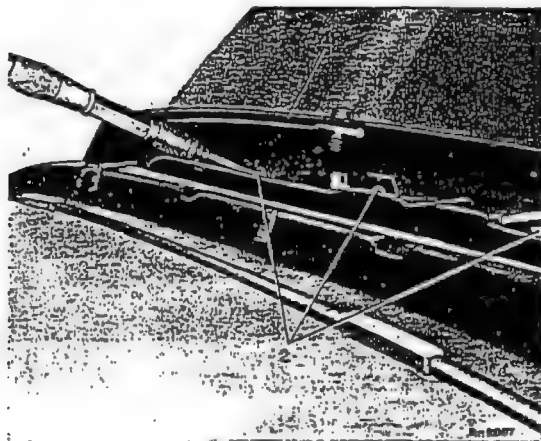

Fig. 83-2/16
3. Unscrew the scoop (1) left and right from the cowl. Then loosen the four center screws (2) and lift out the scoop upward (Fig. 83-2/16).